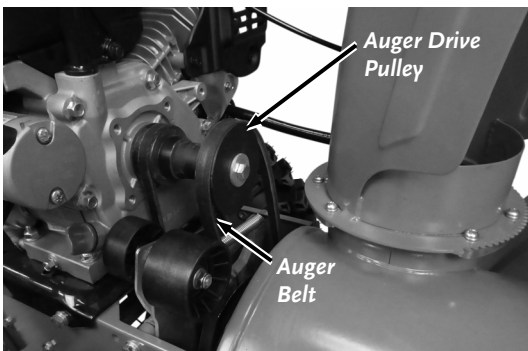

Figure 43
4. Roll the Auger Belt off the front of the Auger Drive Pulley (**Figure 43**).